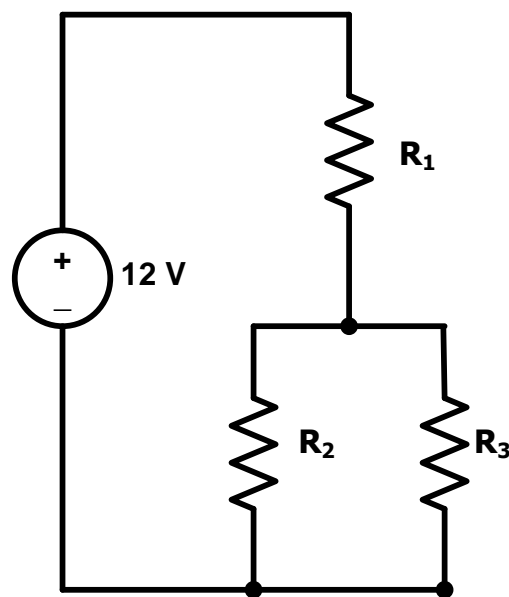

Figure 14: The circuit for Part C.
- 3) Connect the circuit in **Figure 14**.